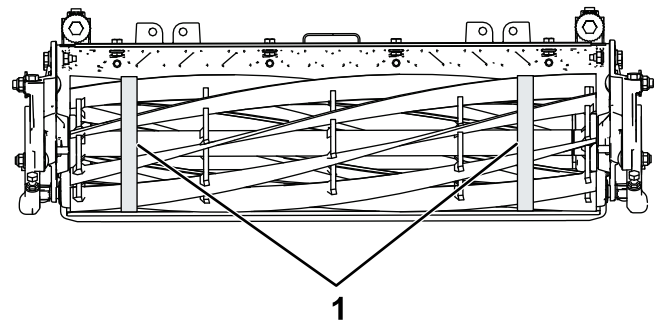

Figure 36
3. Using a diameter measuring tape, measure the outside diameter of the reel at both ends (Figure 36); the difference in outside diameter between the ends should be less than 0.010 inches (0.254 mm). If the difference is greater, grind to correct the difference.